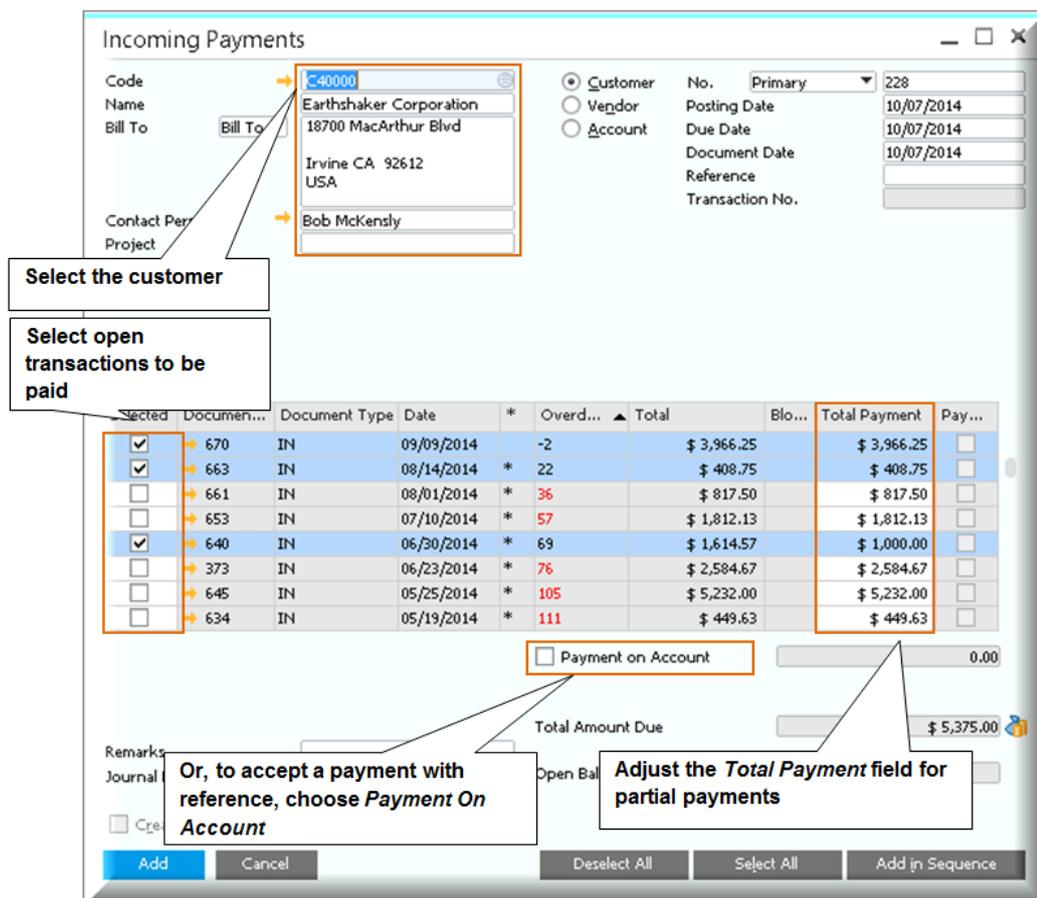

Figure 3-12: Incoming Payments window
1. Go to the **Banking** → **Incoming Payments** → **Incoming Payments** window shown in Figure 3-12